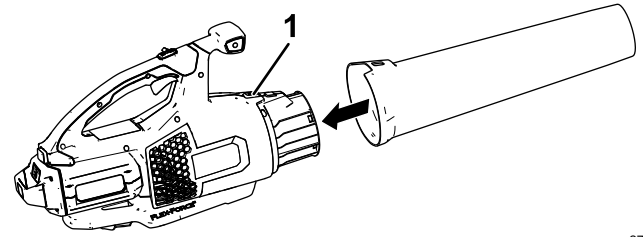

Figure 2
Slide the blower tube onto the blower housing. You may need to press down on the tube latch for the blower tube to lock into place (Figure 2).
3. Grasp the handle and push the battery pack into the handle until the latch locks into place (Figure 2).